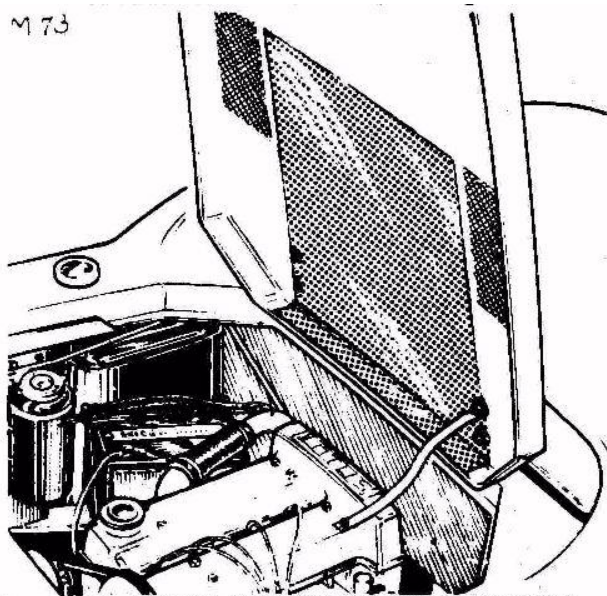

Fig. 6. ENGINE COMPARTMENT SCREEN AND EARTH.
- a. 38 cm (15 in.) braid from bonnet hinge bolt to camshaft cover (see Fig. 6.)
4. Screening. Using Dunlop 'S.758' adhesive, attach a piece of perforated foil 53 cm.(22 in.) X 51 cm. (20 in.) to the underside of the engine compartment lid. Note that the foil is beneath the bonnet mounting nuts with the braid in contact with the foil (see Fig. 6.).